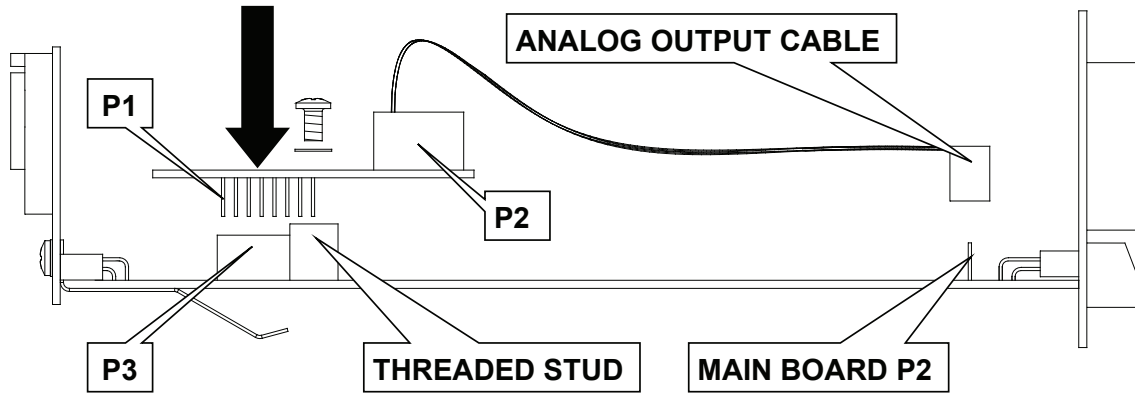

Figure No. 4
5. Referring to Figure No. 4, locate the threaded mounting stud and connector P3 (Option Board) on the main board.
1. Referring to Figure No. 4, locate the Analog Output connector P2 on the main board.